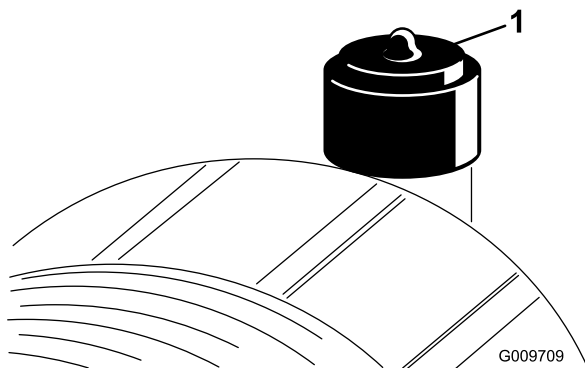

Figure 46
Service the air-cleaner filter only when the service indicator requires it (Figure 46). Changing the air filter before it is necessary only increases the chance of dirt entering the engine when you remove the filter.
2. Reset the indicator (Figure 46) if it shows red.